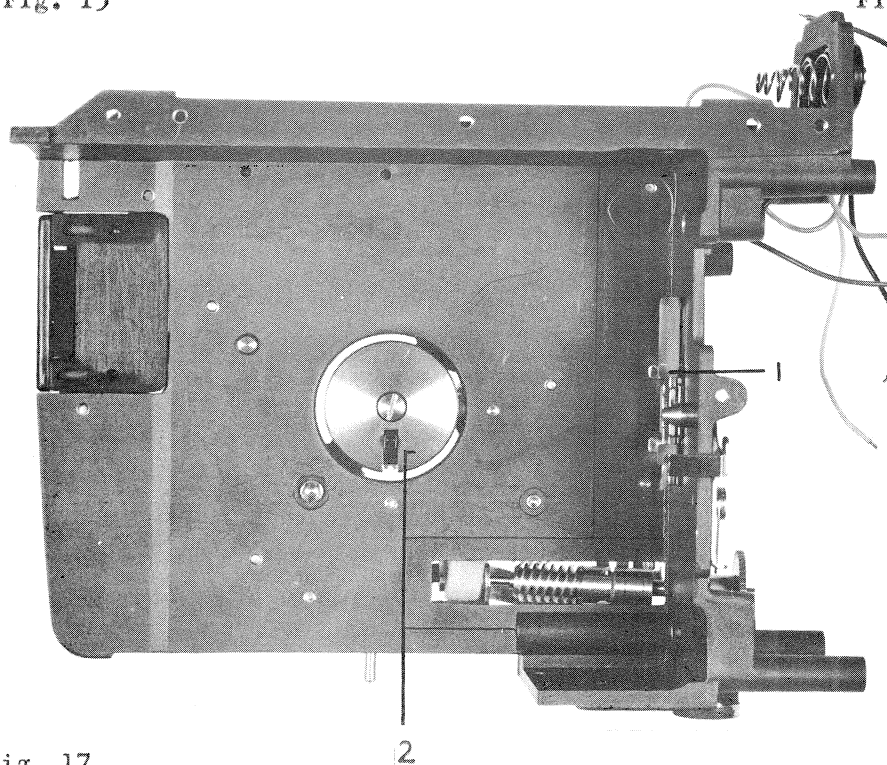

Fig. 17
- b-1. Inspect, adjust, remove, and replace the aperture plate (1 in Fig. 17).
- b-2. Inspect, adjust, remove, and replace the take-up shaft (2 in Fig. 17).